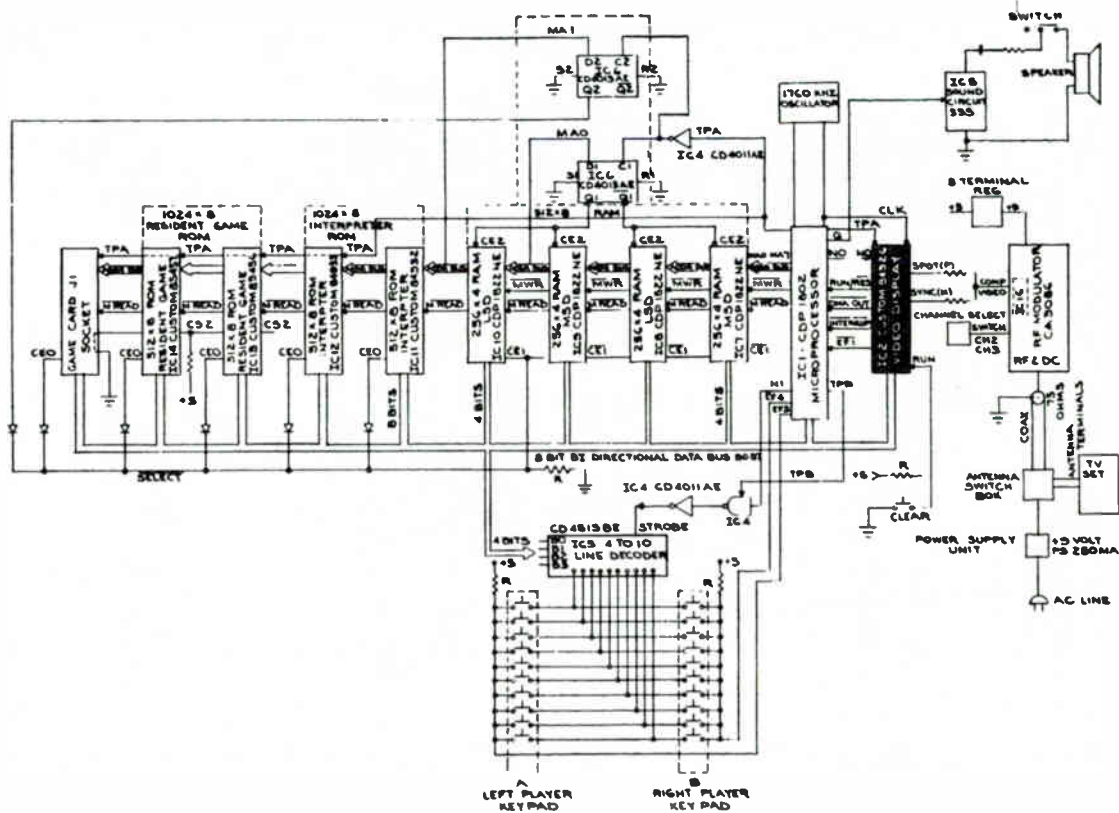

Fig. 11-6. The Freeway test display.
Press the CLEAR button on the console and then press key 4 on the left-hand keyboard. This sets up the game for Freeway, and the track as shown in Fig. 11-6 should appear immediately. If necessary, adjust the fine tuning and hold controls of the TV for best picture.